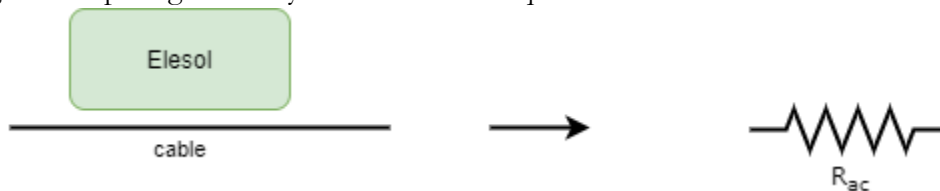

Figure 8: Elesol equivalence for noises above 30MHz.
- 3) **6MHz < Frequency < 100 MHz:** in this region $R_{ac}(\nu)$ is dominated part in impedance $Z(\nu)$ (resistive region) as shown in Figure 8 and a major part of the noise magnetic flux is transformed into the heat by Eddy current loss (see below). This is the most effective mechanism for filtering noises and a good filter product has a lower and wider resistive frequency domain. As Eddy current loss is proportional to the square of the frequency, therefore, there could be a higher loss in this region comparing to the hysteresis loss in frequencies lower than 6MHz.